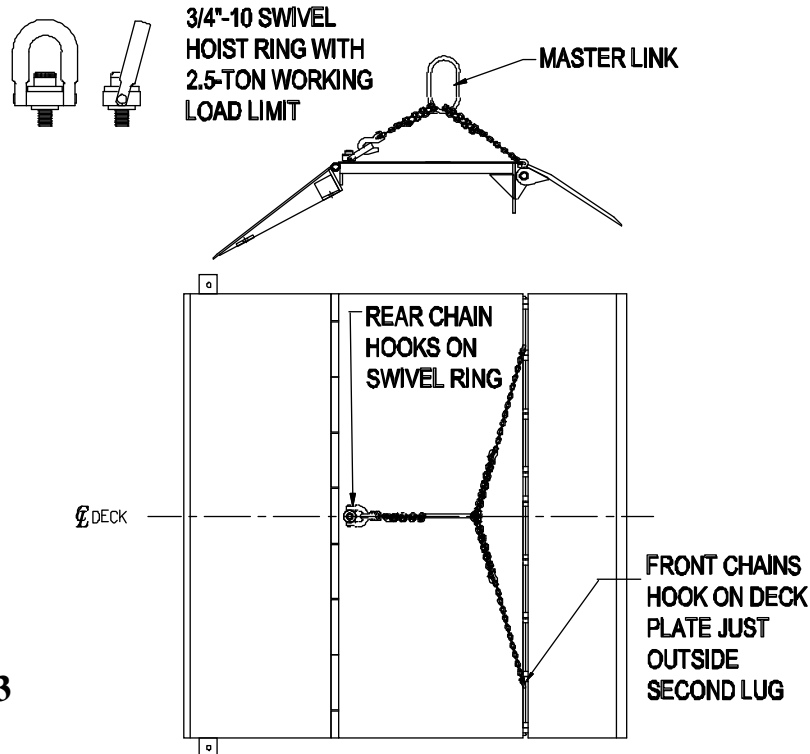

Figure 3
10. Position the leveler assembly so the edge of deck is 12-1/2" ahead of the dock face. See **Figure 3**.